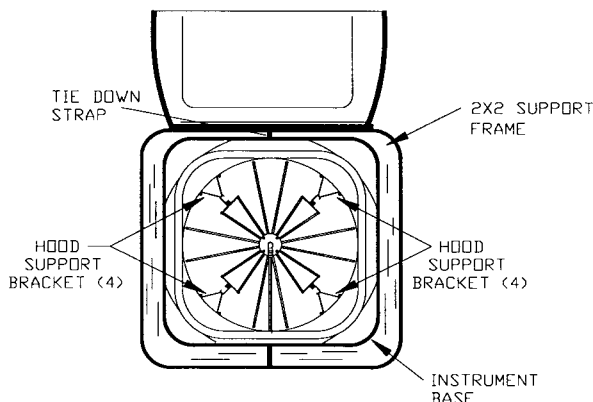

Figure 2—Top view of carry case
Before removing any parts from the carrying case, the arrangement of the various items should be noted so that repacking can be done easily. See Figures 2 and 3.
Step 1: Remove the tie down straps at the two locations shown in Figure 2.